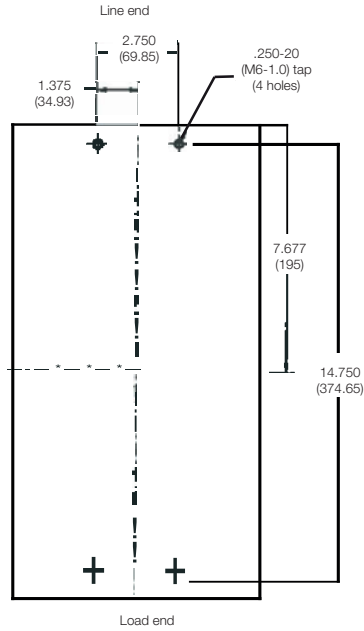
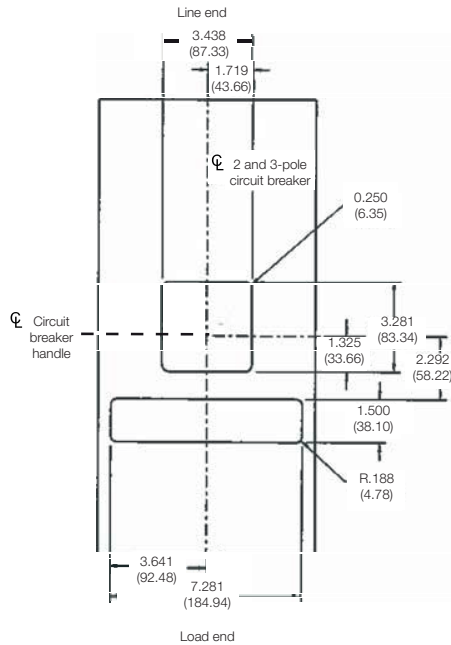

Figure 4: 3-pole mounting bolt drilling plan
Figure 5: 3-pole cutout dimensions
- a. For individual surface mounting, drill the mounting panel using the drilling plan shown in Figure 4. For panelboard mounting, only load end support mounting holes are required. For Deadfront cover applications, cut out cover to correct escutcheon dimensions, see Figure 5.